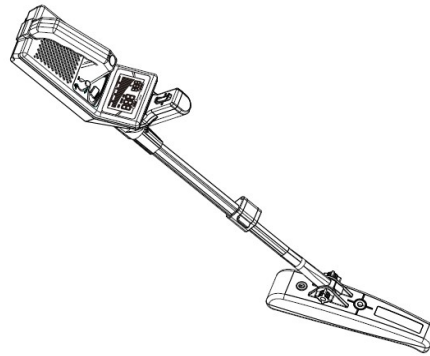

Figure 13
- 4) Loosen the lock sleeve on the upper link, adjust the length of the lower link inserted into the upper link. You can adjust the total length of the link, so that you can straighten your arm and perform detection comfortably (see Figure 13). Then lock the lock sleeve.